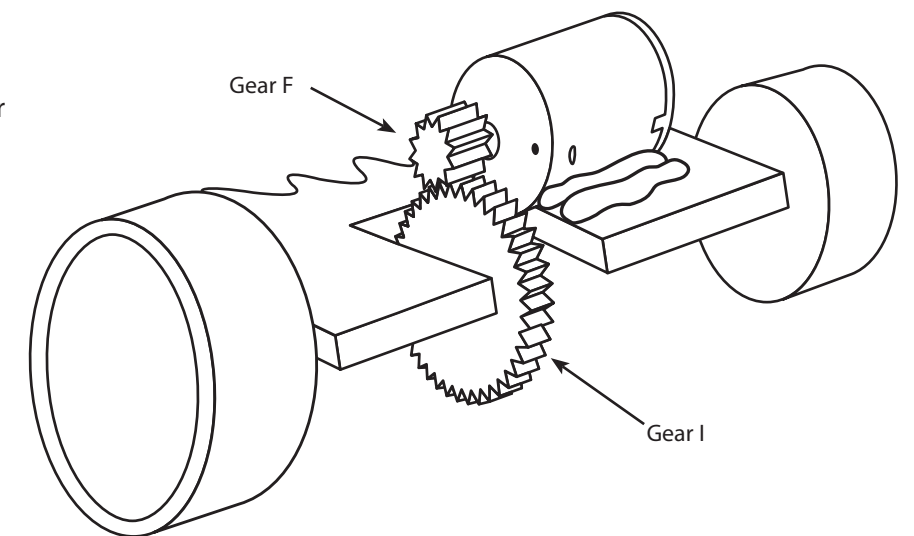

Figure 5 – In this illustration, Gear F engages Gear C.
- Using a cool-melt glue gun, create a $1/2" \times 1"$ rectangle of glue about $1/8"$ deep (Figure 5).
- While the glue is still liquid, place the motor on its side (with vent holes up) on the glue so Gear F sits directly on top of and engages Gear I (Figure 5). Be sure not to block the vent holes with glue. Hold the motor in place while the glue cools.
- Apply another bead of cool-melt glue behind and in front of the motor (Figure 5). This will keep the motor in place if the vehicle comes to a sudden stop or crashes.